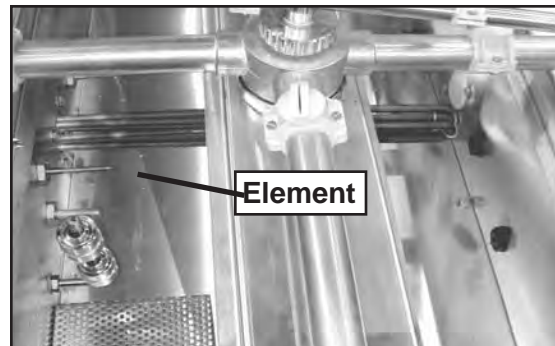
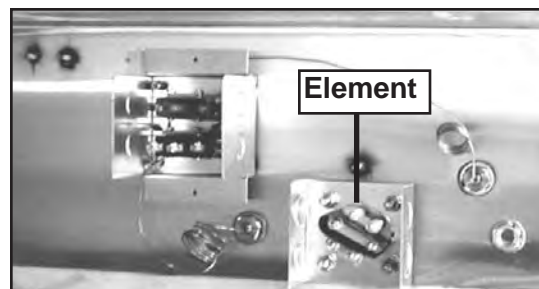

Figure 15
Figure 16
4. Remove element cover from booster to expose elements. (Fig 15 & Fig 16)
6. Remove the (3) retaining element nuts and washers from bad element(s).